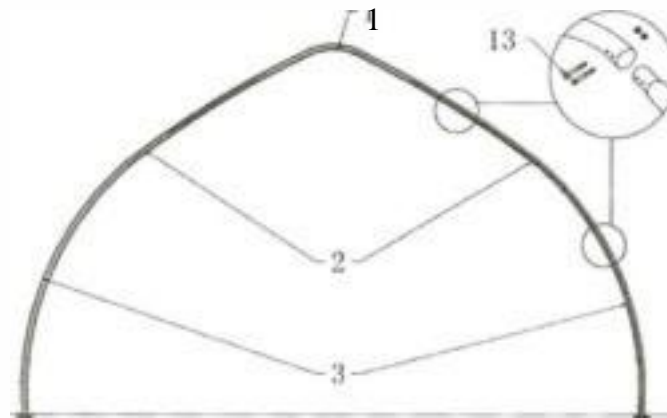

Figure 3
1. As Figure 3 shown to find one Roof Bent Tube (No. 1), two Middle Bent Tubes (No. 2), Lower Bent Tube (No. 3) and assemble every group arch with BoltM8x60 (No. 13). DO NOT install the screw on the top of the fruss where the fabric will rest.